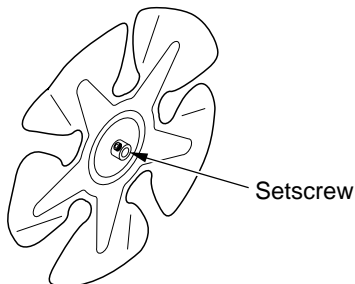

Figure 10 - Setscrew Location
3. Use hex wrench to loosen set screw which holds fan to motor shaft (see Figure 10, page 7). Remove fan. Be careful not to damage the fan blade pitch.
3. Use hex wrench to loosen set screw that holds fan to motor shaft (see Figure 10).